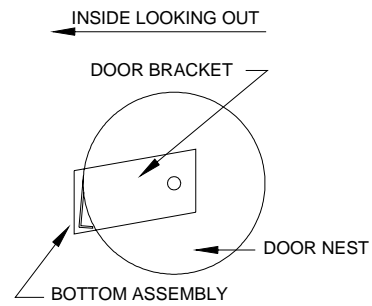
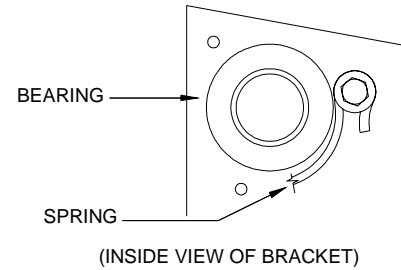

Figure 8.
Figure 9.
5.5 Position bracket in rough alignment with the bottom assembly. See Figure 8 Ensure that the door spring is in a relaxed position. Pass a 5/16" bolt with a flat washer through the loop in the end of the door spring and through the nearest of three holes in the door bracket. Secure with a 5/16" whiz nut. Repeat on the other end if the door comes with two springs. ENSURE THAT THE SPRING FITS AROUND THE BEARING IN THE BRACKET BEFORE FINAL TIGHTENING. See Figure 9.